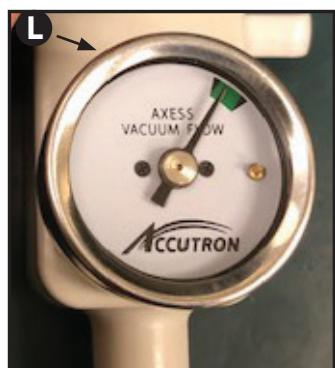

Figure 4
6. **RFS™ Scavenging Circuits:** Adjust the flow on the RFS Vacuum Controller using knob **M** so that the needle is in the green zone of the gauge **L** per Figure 4.
In-line: Adjust the flow on the In-line controller using knob **R** until the needle is in the green zone per Figure 4.